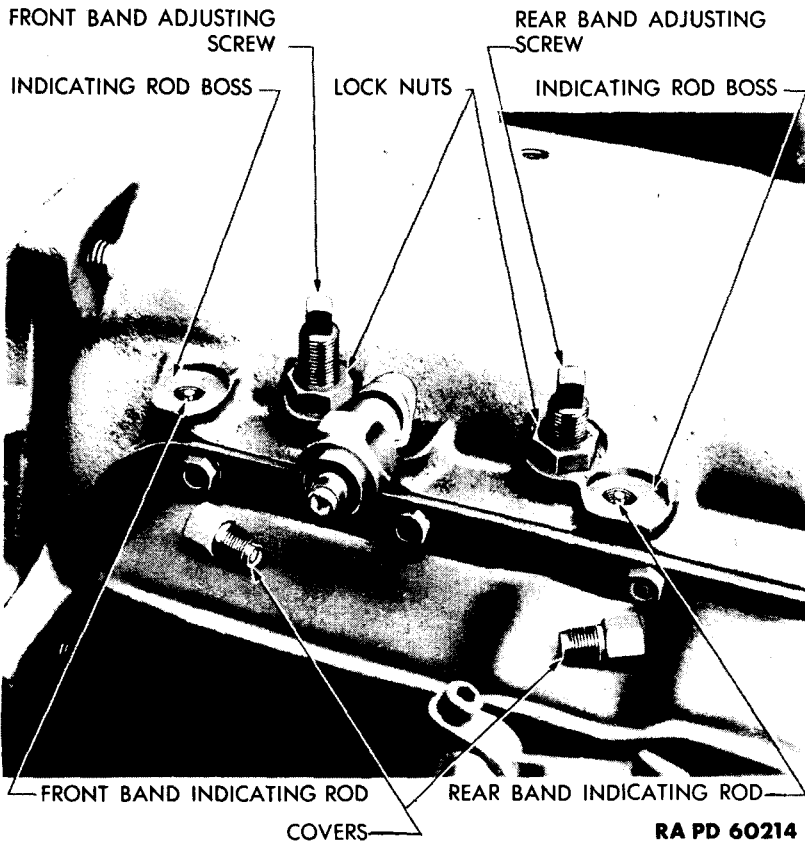

Figure 87 — Band Adjustment with Indicator Rods
d. Adjusting Band with Indicator Rods. Place transmission selector lever in neutral and start engine. Loosen band adjusting screw lock nuts and remove indicating rod covers. Set brakes, move selector lever to "DR", and set hand throttle so that engine is running approximately 1,000 revolutions per minute. Check position of indicating rods for both bands (fig. 87). The rod ends should be exactly flush with the rod bosses on the case when checked with a straight edge or scale. Turn adjusting screws up or down as required to secure this adjustment. Lock adjusting screw lock nut and install indicating rod covers. Stop engine. **CAUTION:** *Do not allow engine to pull against fluid coupling for more than 1 minute, and allow at least 3 minutes for the oil to cool before repeating.*